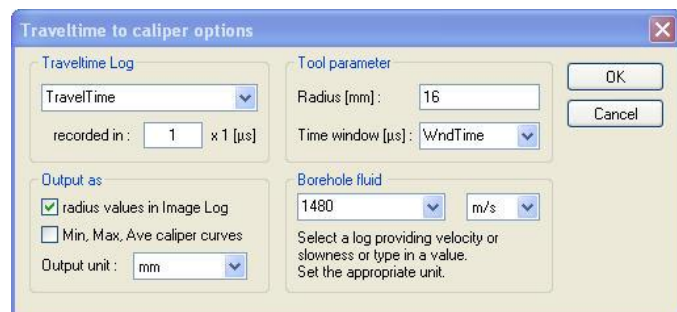

Figure 7-2 Travelttime to caliper conversion dialog box
- Select the **Calculate Caliper** process from the **Process > Image Module > Image Logs** menu. The options dialog box (Figure 7-2) will open.